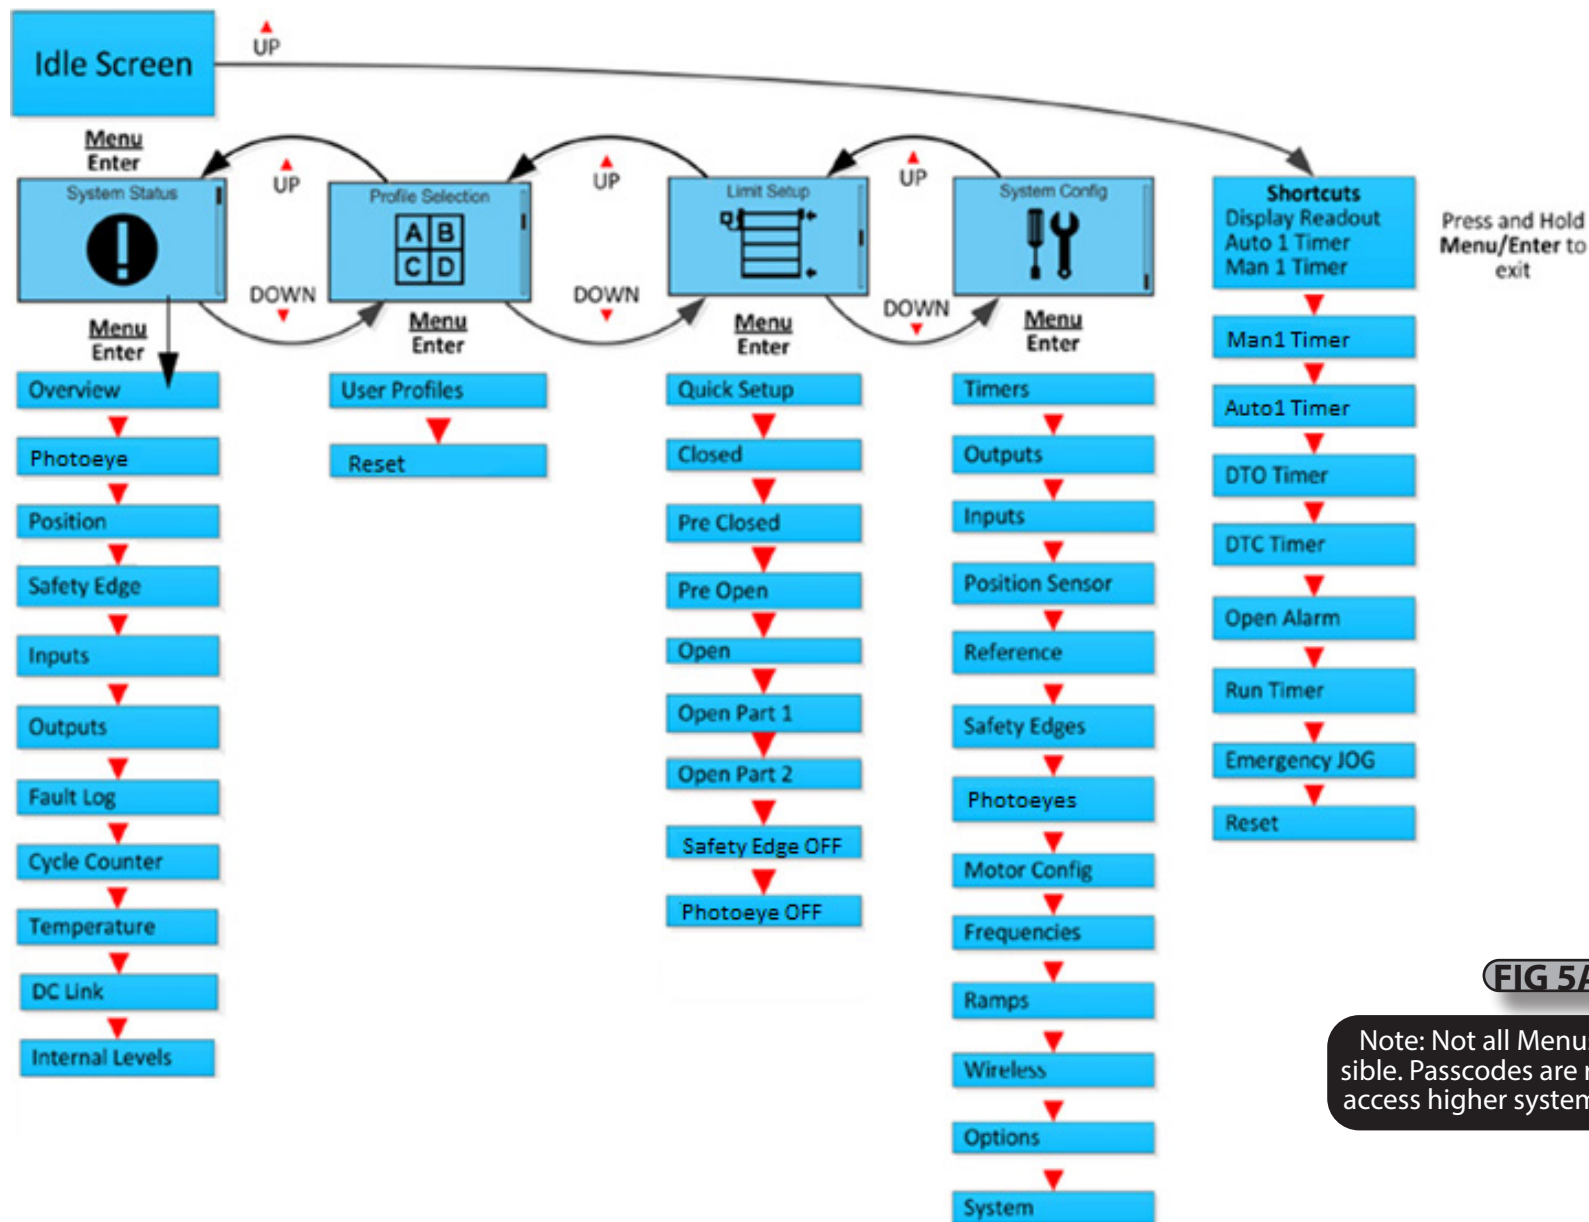

FIG 5A
A. To enter the Menu, press and hold the OPEN, STOP, CLOSE membrane buttons for 3 seconds. A count down timer on the top left corner of the LED screen will display the remaining time left to hold. Refer to **Fig 5A** on page 13 for the complete menu structure.